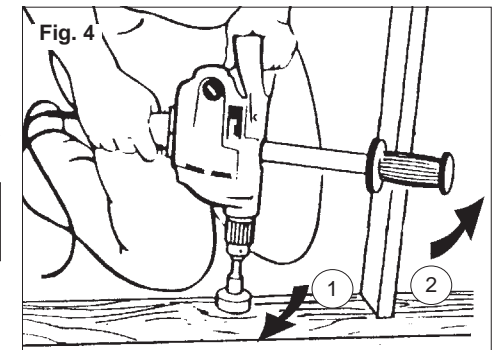

Fig. 4
If the bit binds, the drill will suddenly react in the opposite direction of the rotation of the bit. Figure 4 shows the path of reaction, (1) if the drill bit binds while being driven in forward (2). The operator should reduce the chances of a sudden reaction by following the instructions listed below. The operator should also prepare for a sudden reaction by holding securely using the pipe handle or bracing against a solid fixed object.